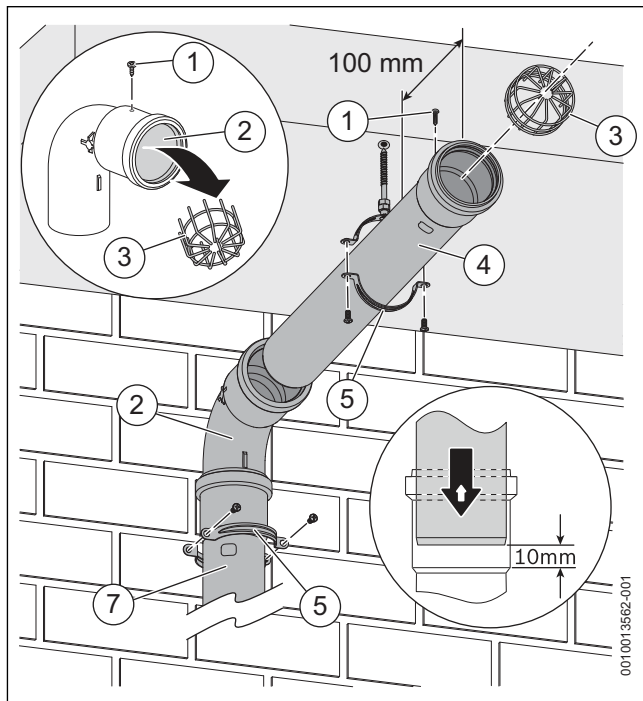

Fig. 50 Fitting extension under balcony/overhang
Refer to figure 50.
- ▶ Screw in the support clamp into the balcony/overhang plug to the distance shown in figure 50.